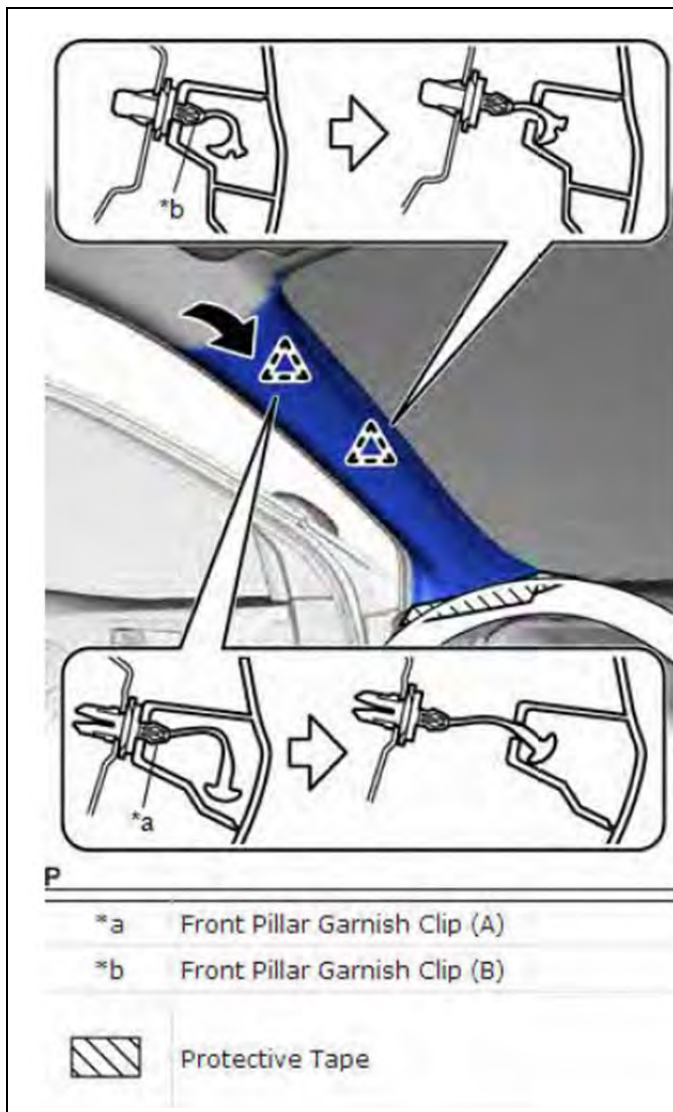

Figure 4
4. Pull the upper part of the front LH pillar garnish toward the inside of the cabin and disengage from the base of the 2 front pillar garnish clips. See figure 4.